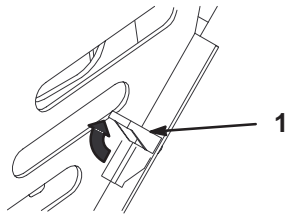

Figure 18
3. Release the four locking tabs (Fig. 18).
1. Position the hood over the traction unit frame with the posts on the hood fitting into the holes on the frame (Fig. 18).
2. Secure the hood by pushing the locking tabs forward and down (Fig. 18).